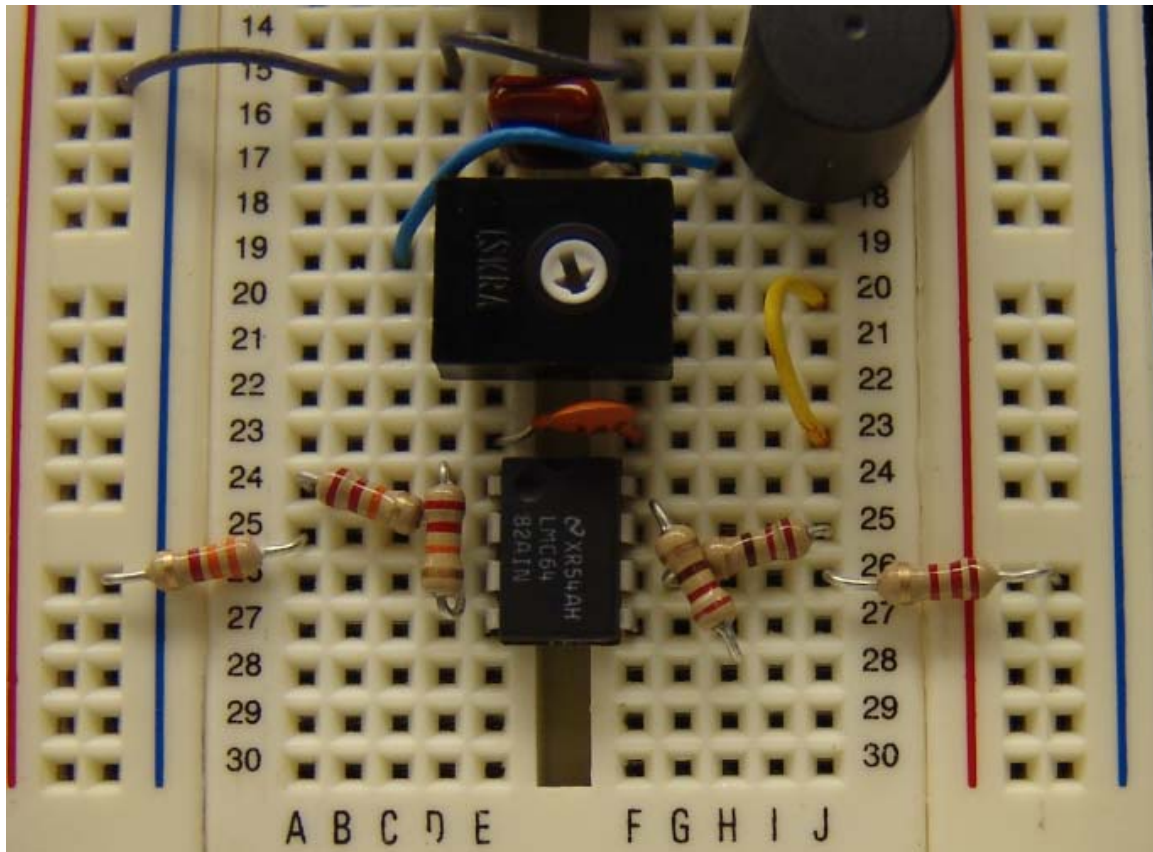

Figure 16. Wire one end of the inductor to the negative battery terminal. I use F15 to D15, then B15 to the negative battery terminal.
12. In figure 16, we have wired one end of the inductor to the common negative terminal of the battery.